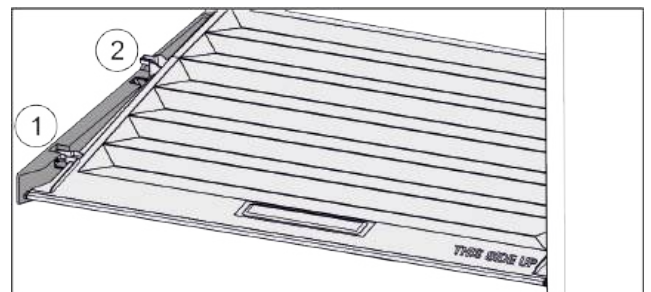

Fig. 109
- Pull the lid up at the front to the opening in the retaining parts Fig. 109 (1).
- Lift from the back and pull it up and out Fig. 109 (2).